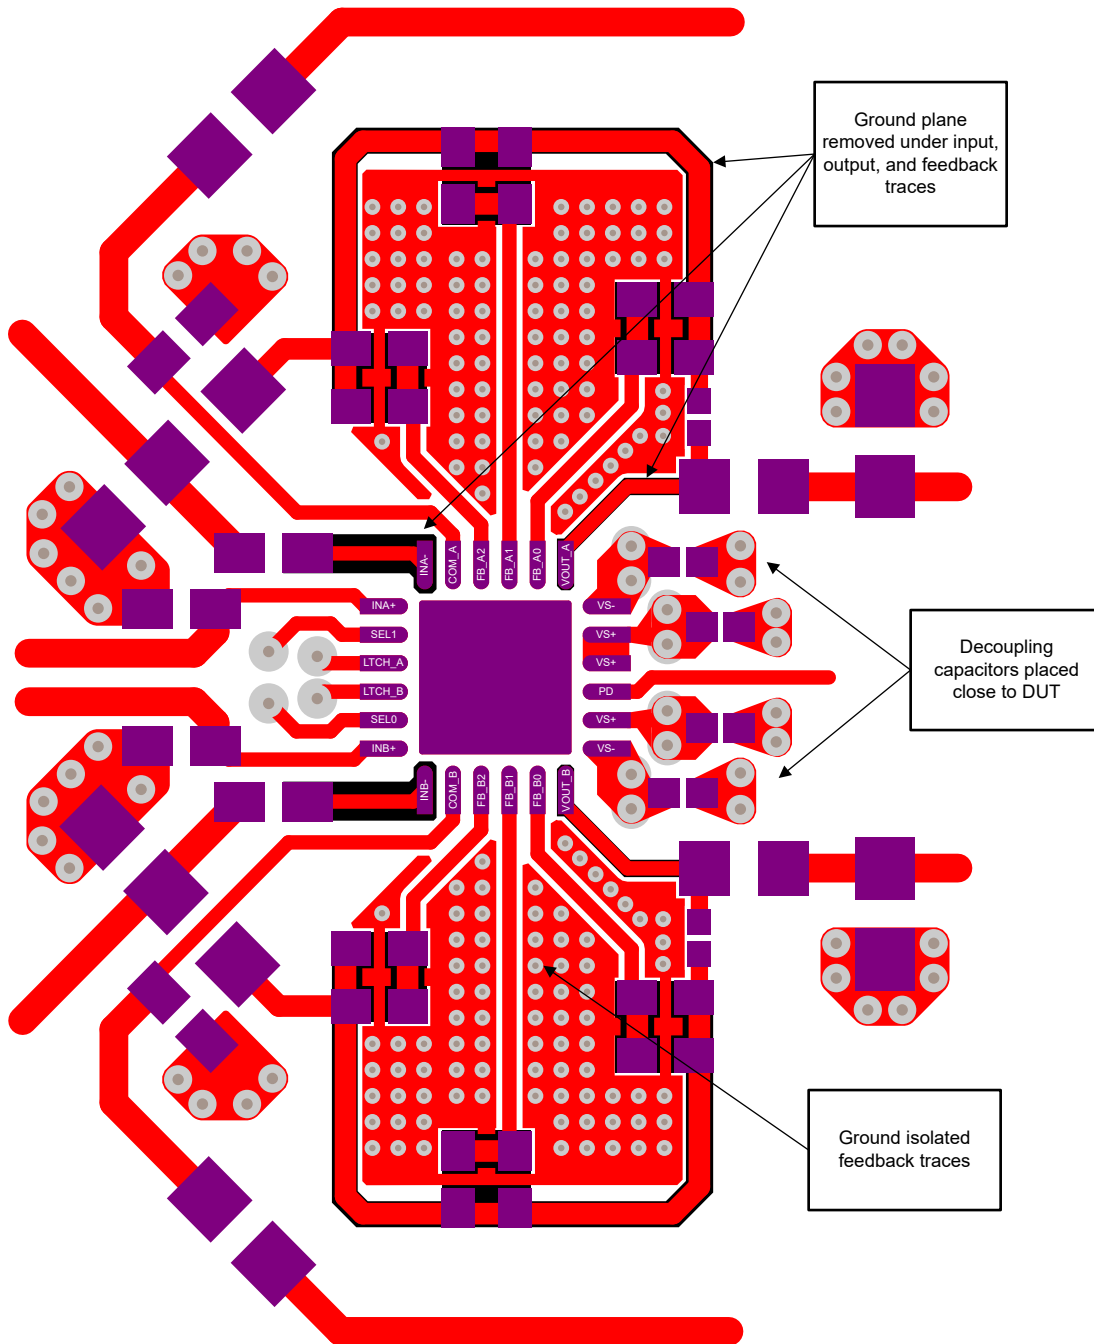
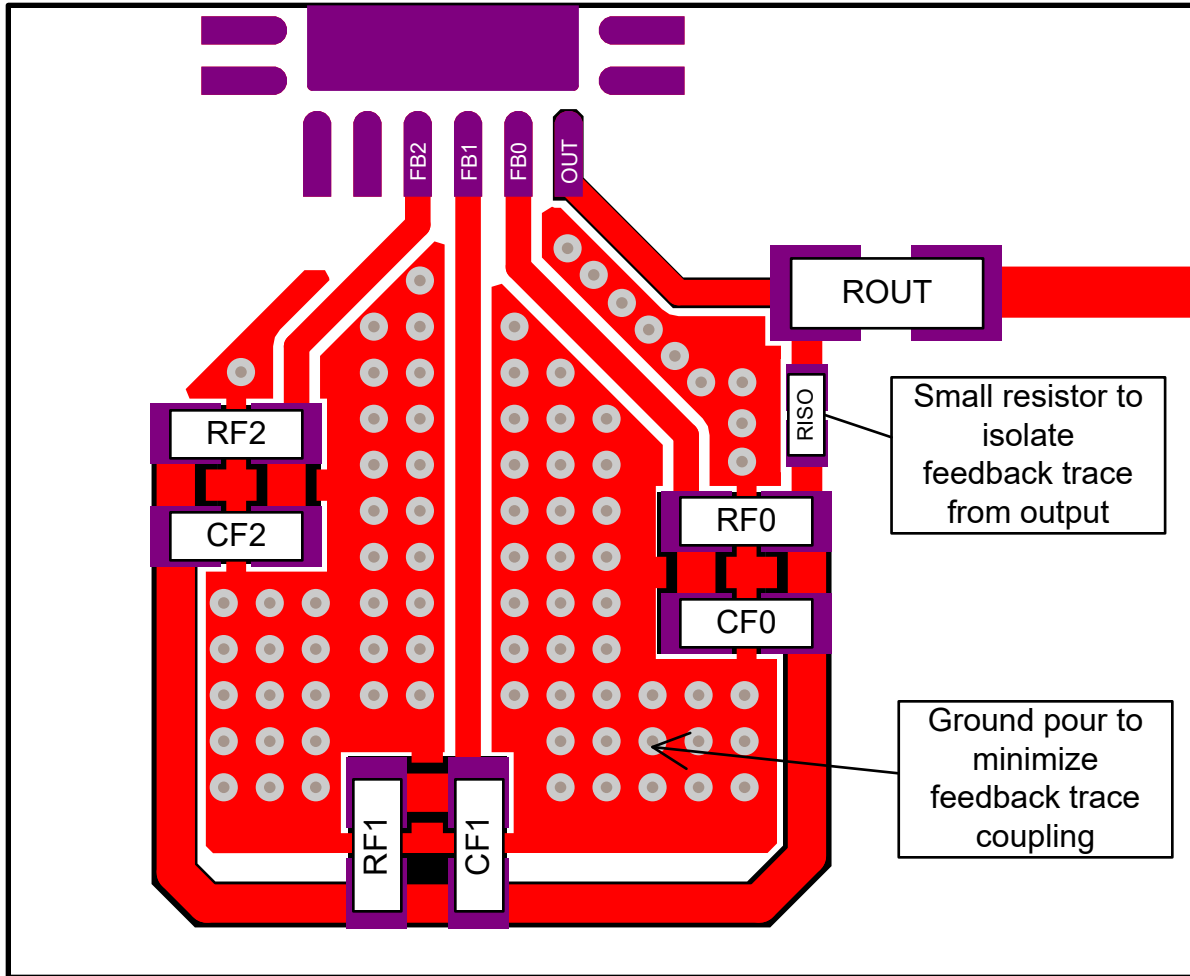

图 11-1. General Layout Example
图 11-2. Feedback Network Layout Recommendations
**Figure 11-1** shows a typical layout around the OPA3S2859 based on the evaluation module. The smallest decoupling capacitors were placed as close as possible to the DUT with wide metal area to minimize inductance. Special attention was placed on the feedback network layout to optimize the design for a typical application using 1 k $\Omega$ , 10 k $\Omega$ , and 100 k $\Omega$  feedback resistors. **Figure 11-2** shows more details. The black colored areas under the input and feedback traces show the voids cut in the ground plane underneath the traces to minimize capacitance to ground as much as possible.
图 11-2 shows an example of a feedback network from the evaluation module optimized to reduce the capacitive coupling between the feedback and output traces. Ground plane is poured between each of the feedback traces and component footprints as much as possible for the best isolation. A small isolation resistor (RISO) is connected between the output and feedback trace to help isolate the trace capacitance from being directly connected to the DUT output. Additionally, the ground plane is removed from under the feedback trace to further reduce the parasitic capacitance to ground created by the additional trace length required for the feedback network.